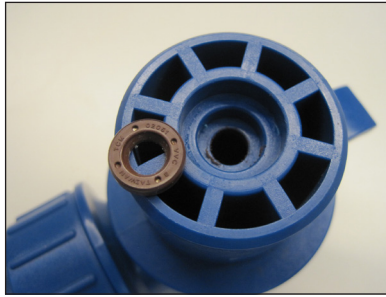

Figure 10 A, B, & C
- 1. Seal Installation** - Take the head (item 6), and install a new seal (item 5). It is recommended to lubricate the seal with a compatible lubricant or water prior to pressing it in. Insert the open part of the seal into the lower bore of the head. Use a 7/16" (12 mm) dowel to press and seat the seal into place. Seal sits slightly below the surface. *See figures 10 A, B, & C.* Note: never reuse an old lip seal.